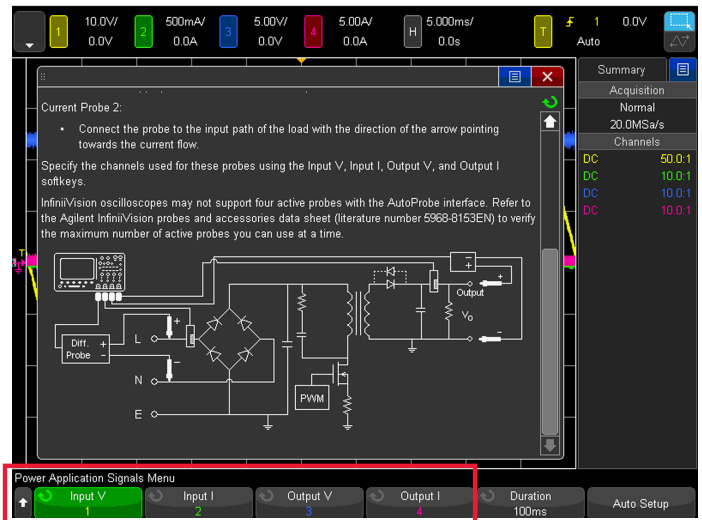

Figure 40. Efficiency measurement connections diagram in the Signals menu.
5. Connect the N2790A high-voltage differential active probe between the scope's channel-1 input to Line (red lead) and Neutral (black lead) as illustrated in the on-screen connections diagram shown in Figure 40. If using Keysight's SMPS training kit, connect to TP2 (red lead) and TP1 (black lead).